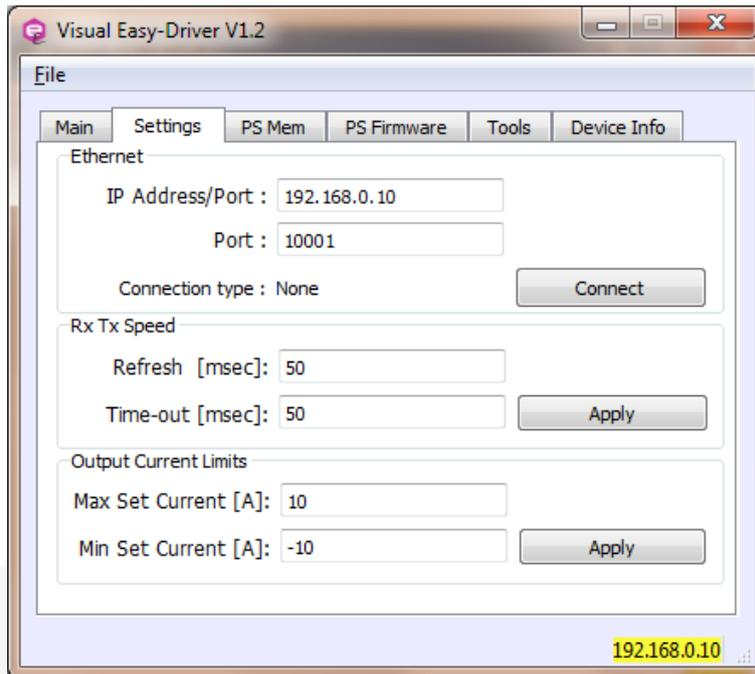

Figure 3: Visual Easy-Driver software *Settings* TAB
Enter the IP address of the power supply (PS) you want to control in the *Settings* TAB (**Figure 3**) and leave the port number to its default - i.e. 10001 - if this value has not been modified.